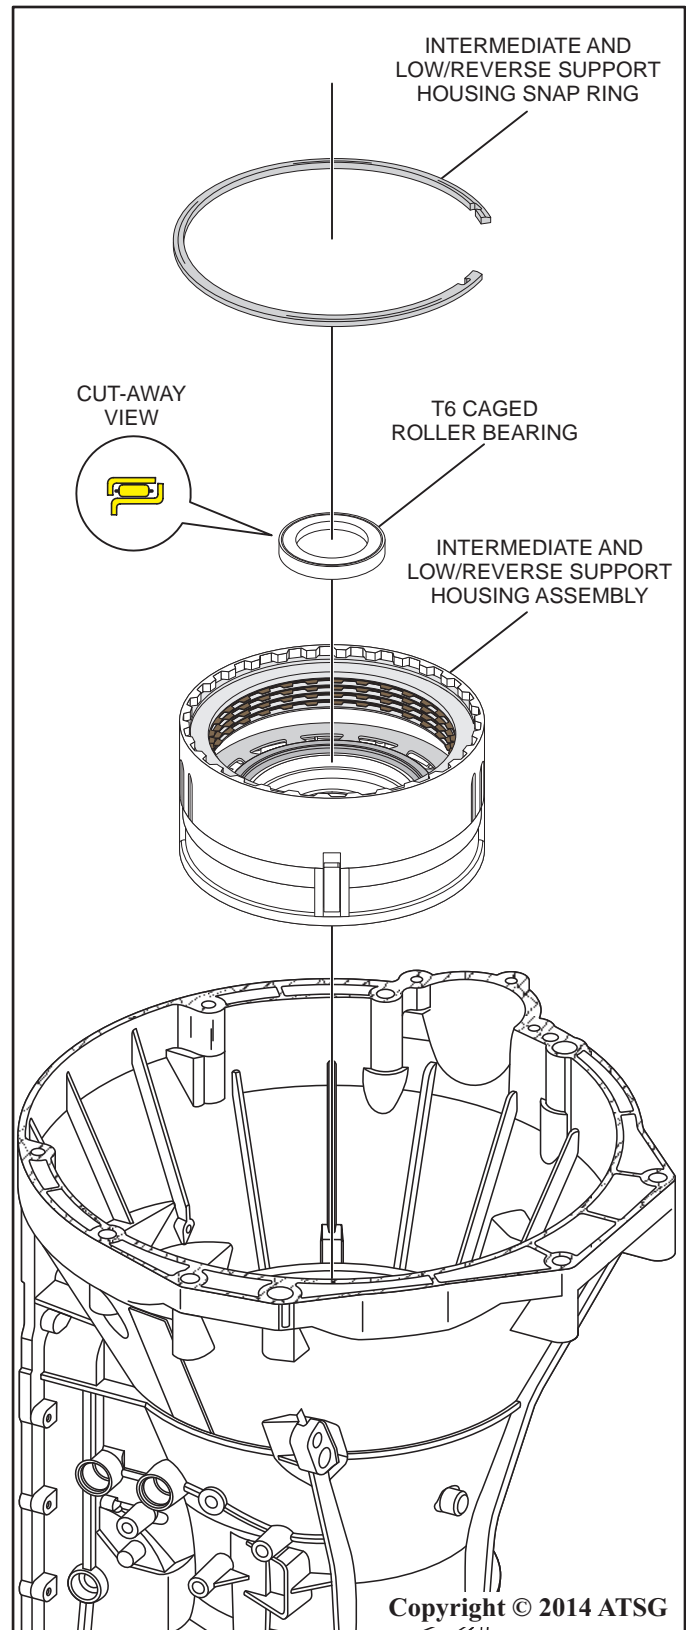

Figure 52
32. Using ST 307-343 or other suitable heavy duty snap ring pliers, remove the intermediate and low/reverse support housing snap ring from the case as shown in Figure 52.
33. Remove the T6 caged roller bearing together with the intermediate and low/reverse support housing from the case as shown in Figure 52 and set aside for disassembly and cleaning.